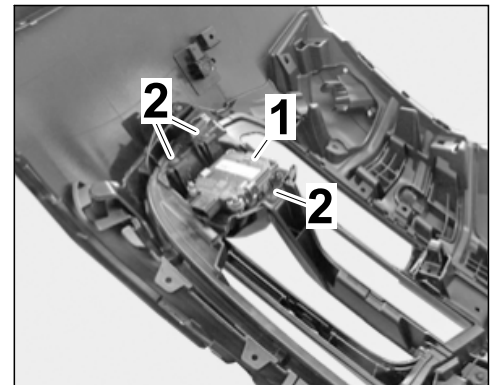

Figure 24
4.10.2 Position distance measuring sensor control unit ⇒ *Figure 24 -1-* in inner air guide. Tighten Torx screws ⇒ *Figure 24 -2-*.